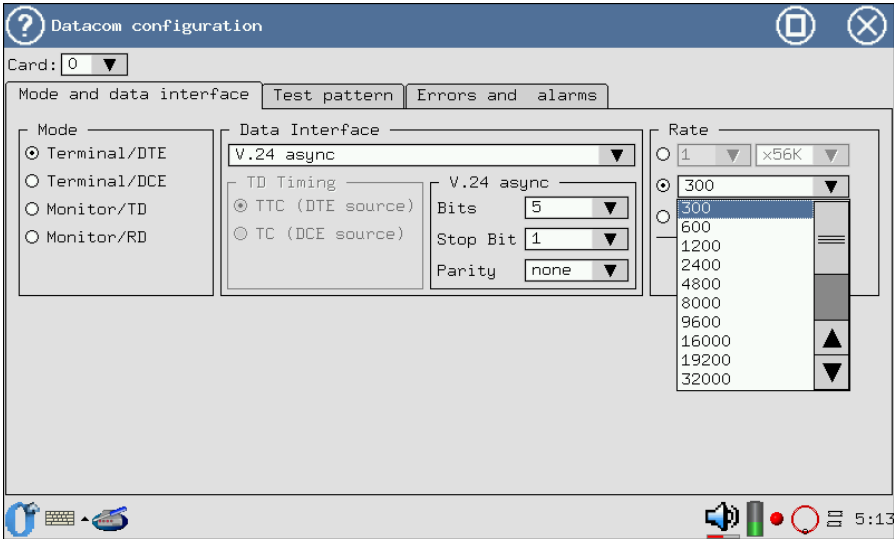

Figure 3.5. Data Transmission Rate Selection
7. The **Rate** field allows to set the testing rate (Figure 3.5, p. 15).